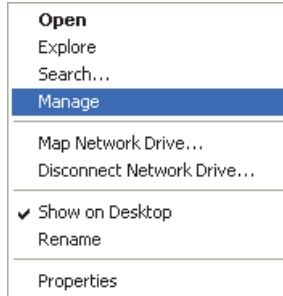

Figure 7-10 The shortcut menu for the My Computer icon
2. On the shortcut menu, click **Manage** (see Figure 7-10 on page 201).